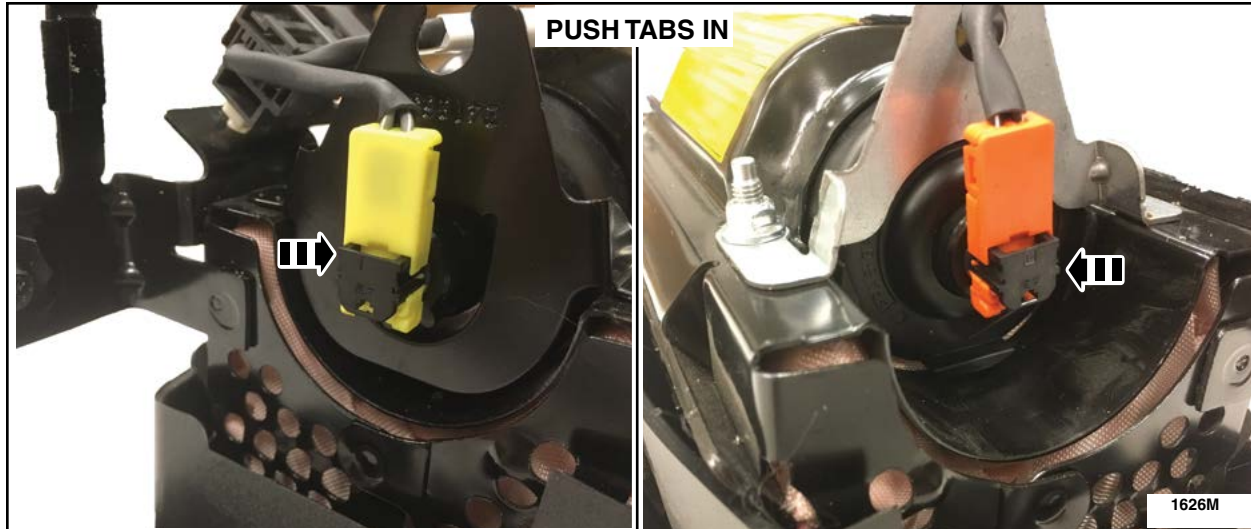

FIGURE 11
11. Align the T-shape index on both the wiring harness electrical connector and the airbag inflator. Install the *new* wiring harness onto the passenger airbag module and connect to both sides of the inflator and fully seat the black tabs. See Figure 11.